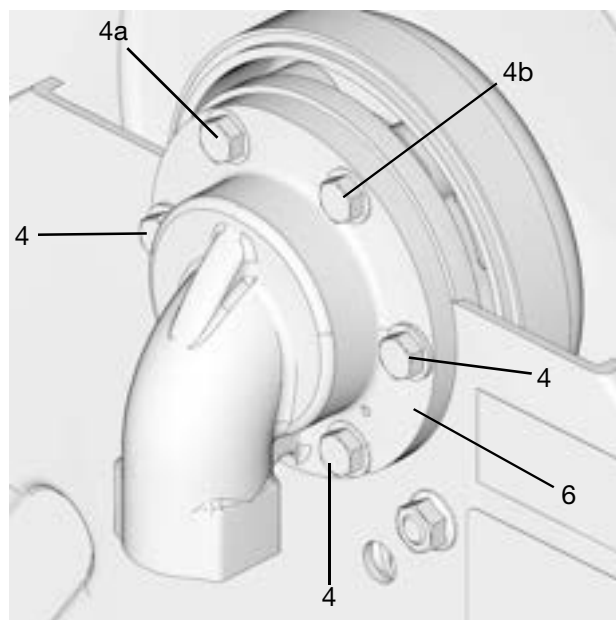

FIG. 3
For the following steps, refer to FIG. 3.
4. Install the top 2 bolts (4a and 4b) as shown in FIG. 3. Tighten bolts just enough to hold everything in place.
5. Then install the remaining bolts (4). Hand tighten and then torque all bolts to 25 to 35 ft. lbs (33.9 to 47.45 N•m).